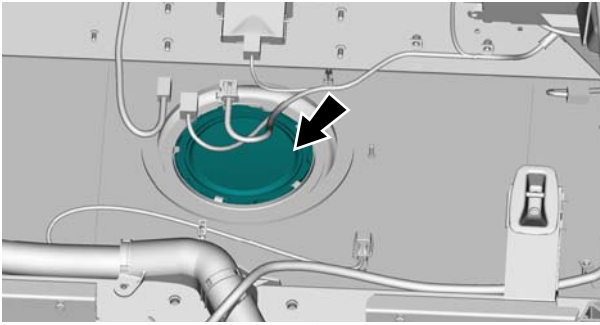

Figure 1
6. Remove the seven M6 nuts that attach the clamp plate and the service cover plate for the fuel tank (Refer to Figure 1).